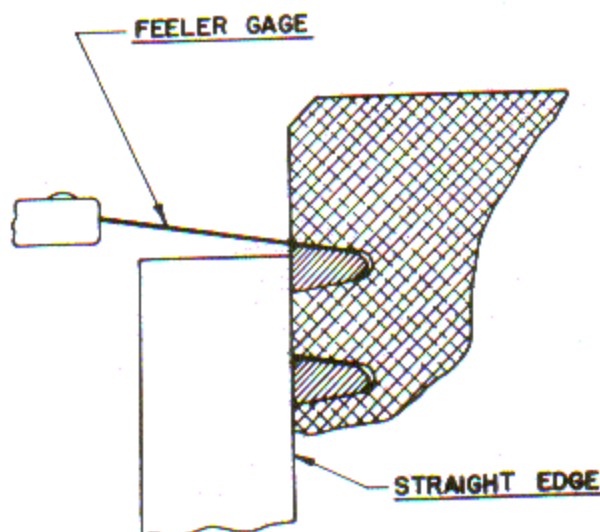

Figure 6-7. Method of Checking Piston Ring Side Clearance
- a. Side clearance between piston ring and piston (514, 515, 516 and 517). Pistons for Lycoming opposed engines are ground with a slight taper from the skirt to the head, with the exception of the lands between the top compression and oil control rings, which are ground parallel. The clearance on wedge type compression rings, therefore, must be measured as shown in figure 6-7 in order to obtain a true check of the side clearance.
- b. Inside diameter of piston pin hole (512).
- c. Clearance between piston skirt and cylinder and piston diameter at top and bottom (519).